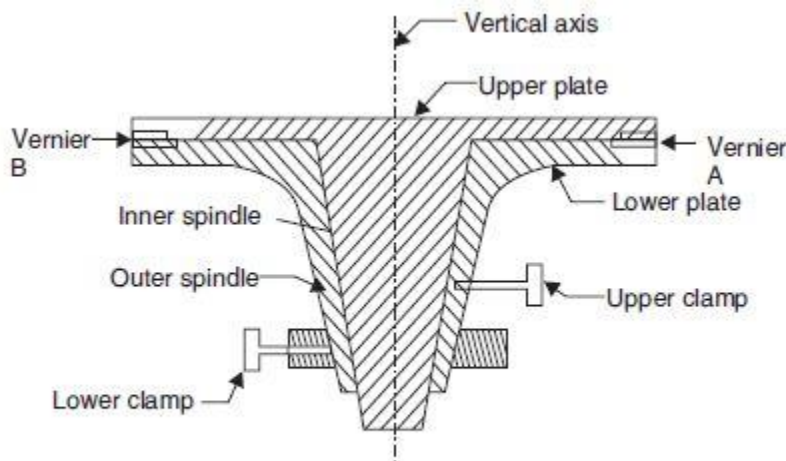

Fig. 16.4
5. Upper Plate [Fig. 16.4]: Upper plate supports standards on its top surface. On lower side it is attached to a inner spindle which rotates in the outer spindle of lower plate. Using upper clamp, upper plate can be clamped to lower plate. Using tangent screws, it is possible to give slight relative motion between the two plates, even after clamping. Two diametrically opposite verniers A and B fixed to upper plate help in reading horizontal circle graduations. They are provided with magnifying glasses.